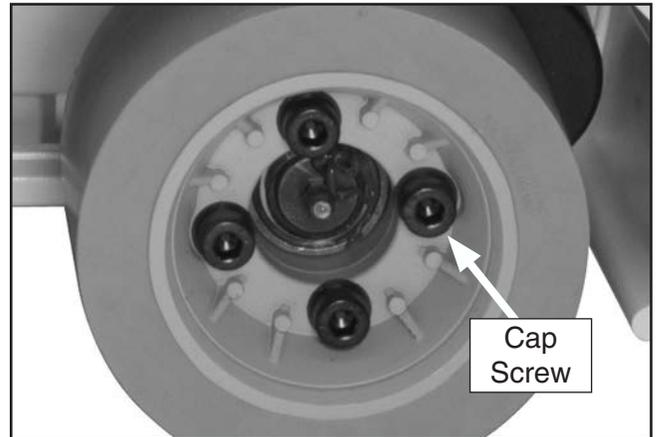

Figure 21. Wheel replacement.
2. Using a 5mm hex wrench, remove the two wheel retaining cap screws (see **Figure 21**).